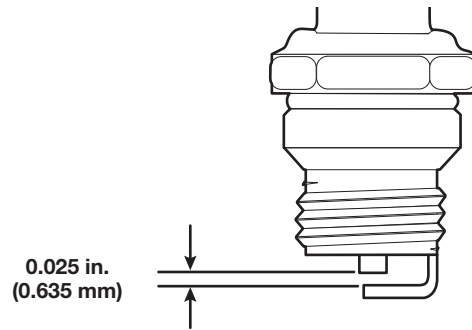

Fig. 35
4. Use a feeler gauge to set the air gap at **0.025 in. (0.635 mm)** (Fig. 35).